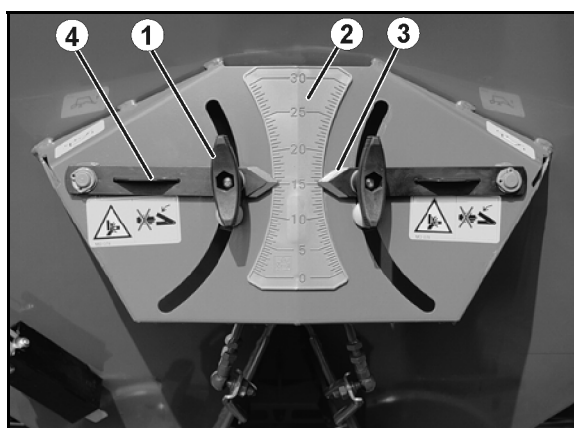

Fig. 60
2. Undo the thumb nut (Fig. 60/1).
3. On the scale (Fig. 60/2), find the scale value for the slider position you have taken from the setting chart or determined using the calibration kit.
4. Set the read-off edge (Fig. 60/3) of the two setting levers (Fig. 60/4) to this scale value.
5. Retighten the thumb nuts (Fig. 60/1).